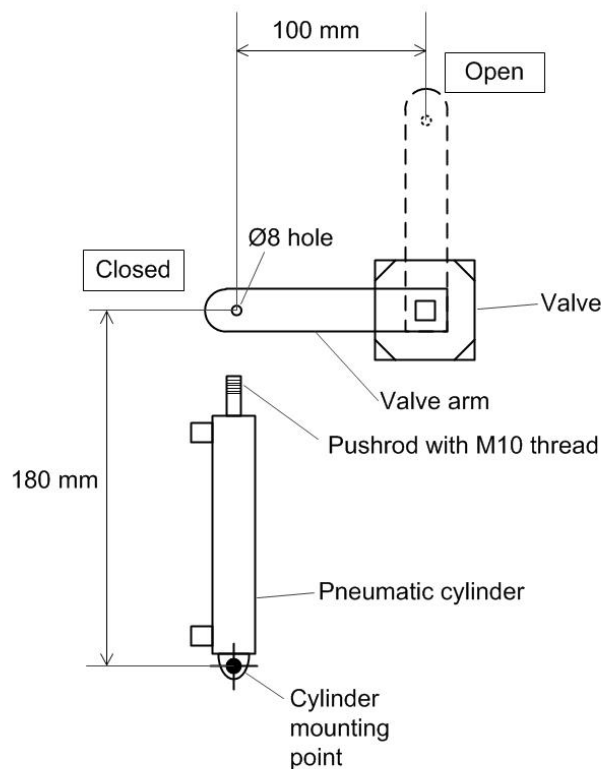

Fig.7
Fig. 7 shows the cylinder and valve in position. The valve is shown in the CLOSED position. When the cylinder outstrokes, it rotates the valve arm 90° to the OPEN position, shown by the dotted lines.
- (i) Analysing the information from **Fig. 7**, use sketches and notes to show a linkage component suitable for this specific application. Show any additional components needed to connect this component to the pneumatic cylinder and the valve arm.
- (b) (i) Using the information in **Fig. 7**, complete the diagram below to show how the pneumatic cylinder would be connected to the valve arm when in its outstroke position.
- (ii) Analyse the data in **Fig. 7** to calculate, by a mathematical method, the pneumatic cylinder stroke required (*stroke* is the distance the pushrod extends when the cylinder is operated). You **must** show your working out.